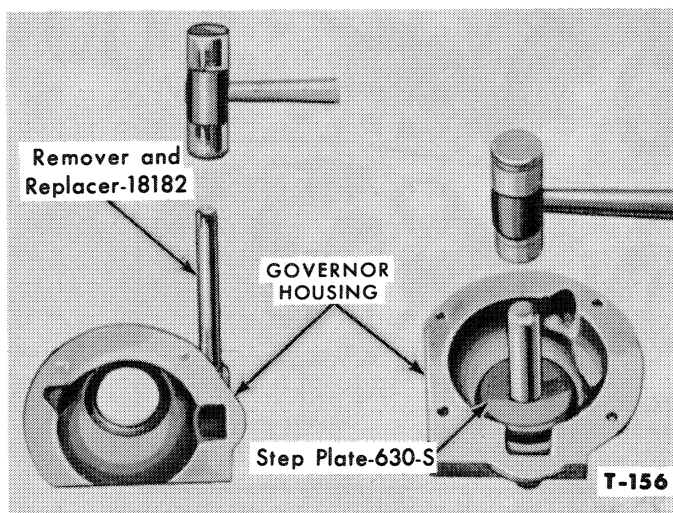

Figure 68—Removing or Installing Needle Bearings and Installing Crankshaft Oil Seal
5. Drive the needle bearings and seal from the governor housing or cylinder front cover with Remover and Replacer—18182, Figure 68.